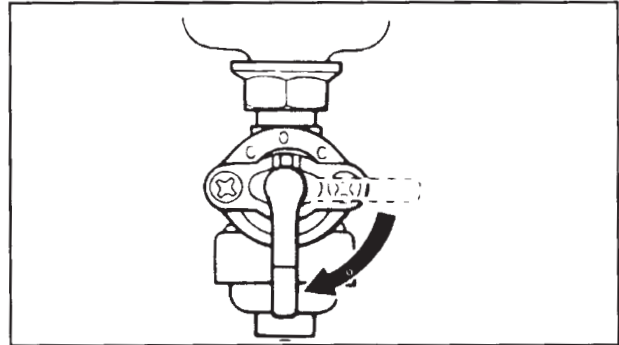

Figure 6. "On" Position of Fuel Shut-Off Valve.
1. Turn fuel shut-off valve to "on" position. See Figure 6.